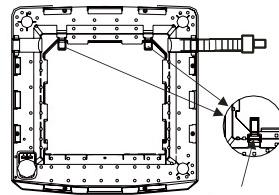

Figure 3
3. Nip the end of the drain hose and remove the hook of fixing the drain hose.(as indicated in Figure 3)